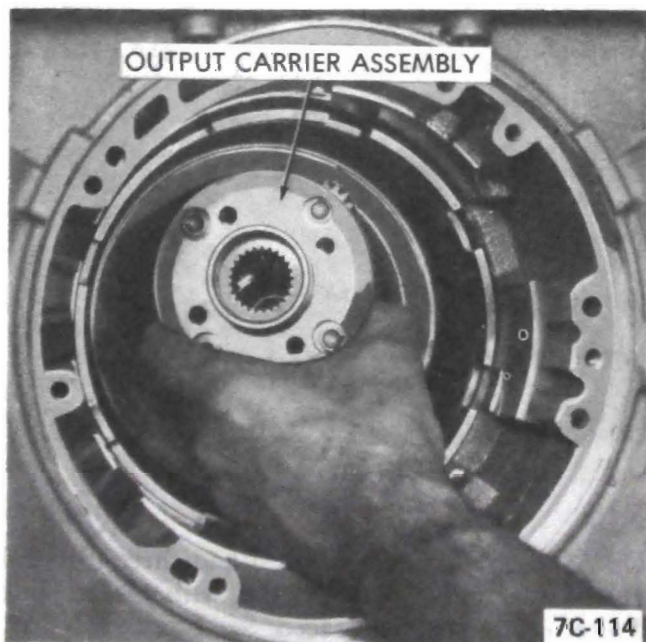

Figure 7C-148
2. Install input ring gear to output carrier thrust washer. See Figure 7C-149.